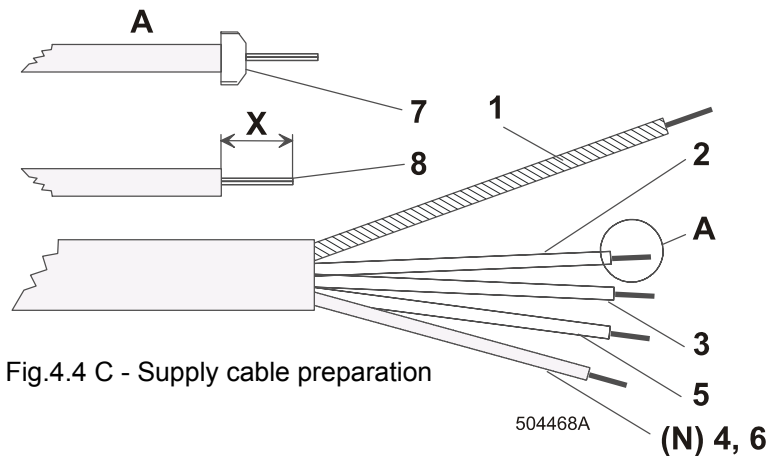

Fig.4.4 C - Supply cable preparation
When using the cable (hard copper conductors), strip the individual cores in such a way to avoid the protrusion of a stripped part from the terminal when the conductor is connected into the device (fig.4.4.C., pos.8 - dimension X). When using a cord (stranded copper conductors) the individual cores can be stripped in a similar way as in the case of a cable, or moulded tubes (7) can be used. In this case use tubes with an insulated neck to avoid any contact to a part under current after the conductor connection.